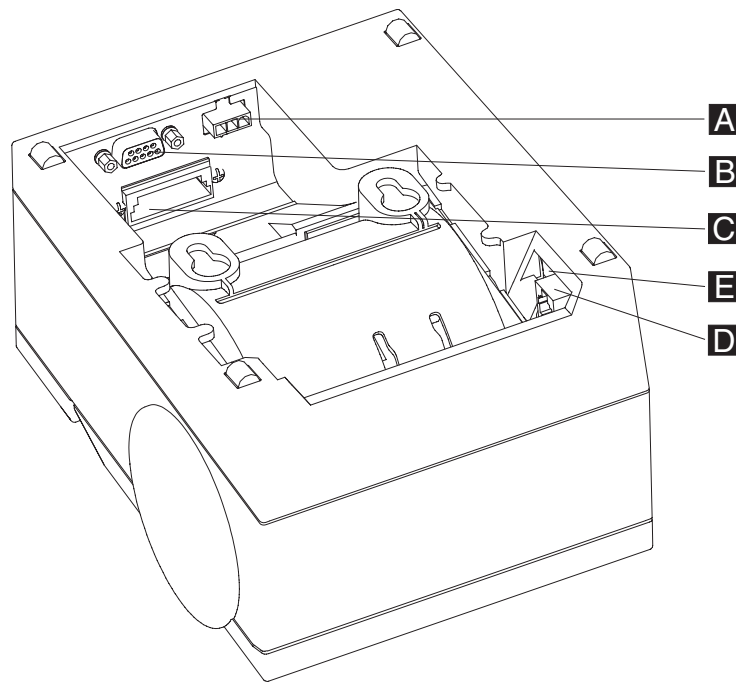

Figure 97. 4610 SureMark Single-Station TF6 or TF7 printer connector locations
Figure 97 shows the 4610 SureMark Single-Station TF6 or TF7 printer connectors.
1. Check the printer RS-232 mode switch settings, which is near the rear cable connections. See **E** in Figure 97 on page 121 for switch location. For switch settings, see the *IBM 4610 SureMark Point-of-Sale Printers User's Guide*.